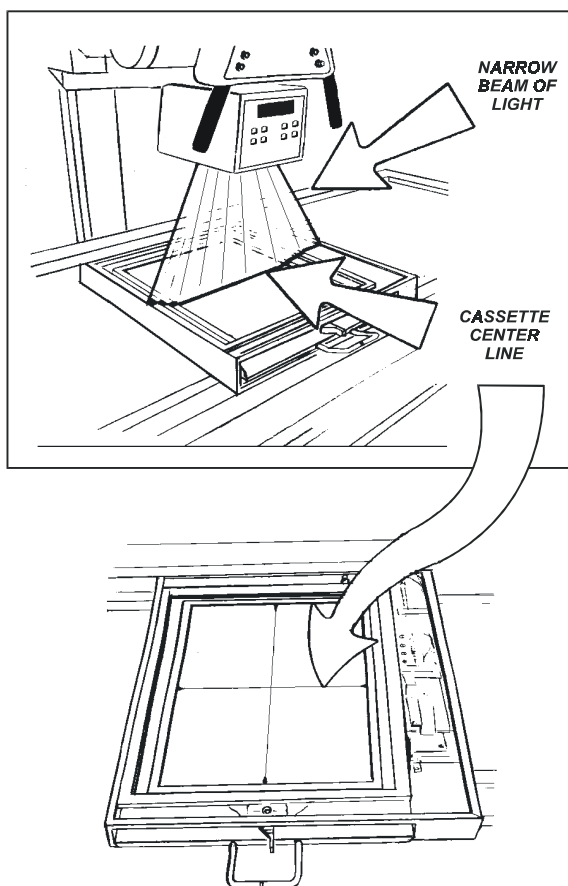

Figure 5. Table Longitudinal Axis Alignment
6. Turn on the collimator light and move the entire table so that the longitudinal center line on the cassette (i.e., the line which is parallel to the length of the table) is properly aligned with the narrow beam of light (see Figure 5).
8. Move the tubestand and Receptor Cabinet simultaneously to check for continuous alignment of the narrow beam of light to the cassette center line (see Figure 5).